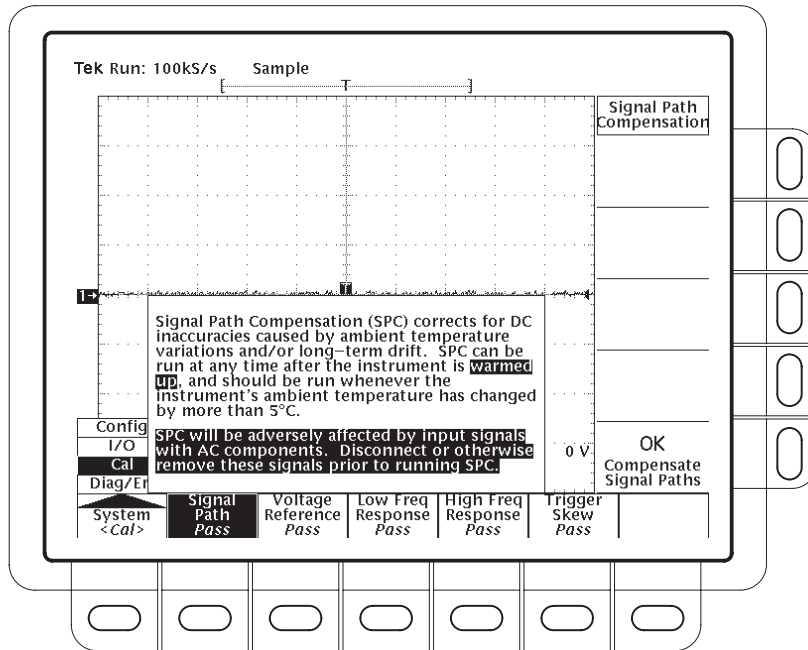

Figure 3-61: Performing a Signal Path Compensation
5. Verify the word *Pass* appears under **Signal Path** in the main menu. (See Figure 3-61.)